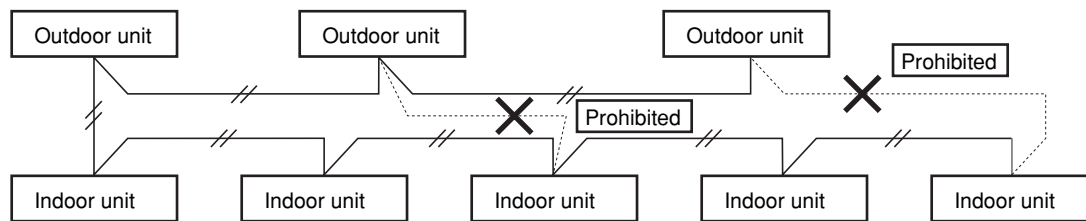

Fig. 4-1
- (2) Do not install the inter-unit control wiring in a way that forms a loop. (Fig. 4-1)